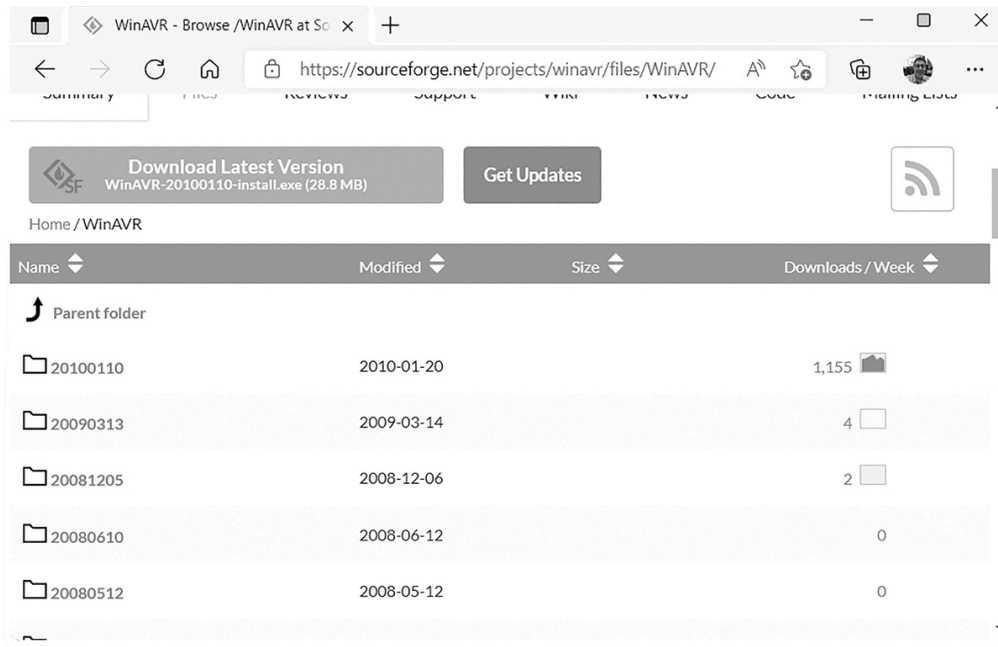

Figure 1-9: The WinAVR download page for Windows
1. Open your web browser and visit the software download page located at <https://sourceforge.net/projects/winavr/files/WinAVR/>, as shown in Figure 1-9.